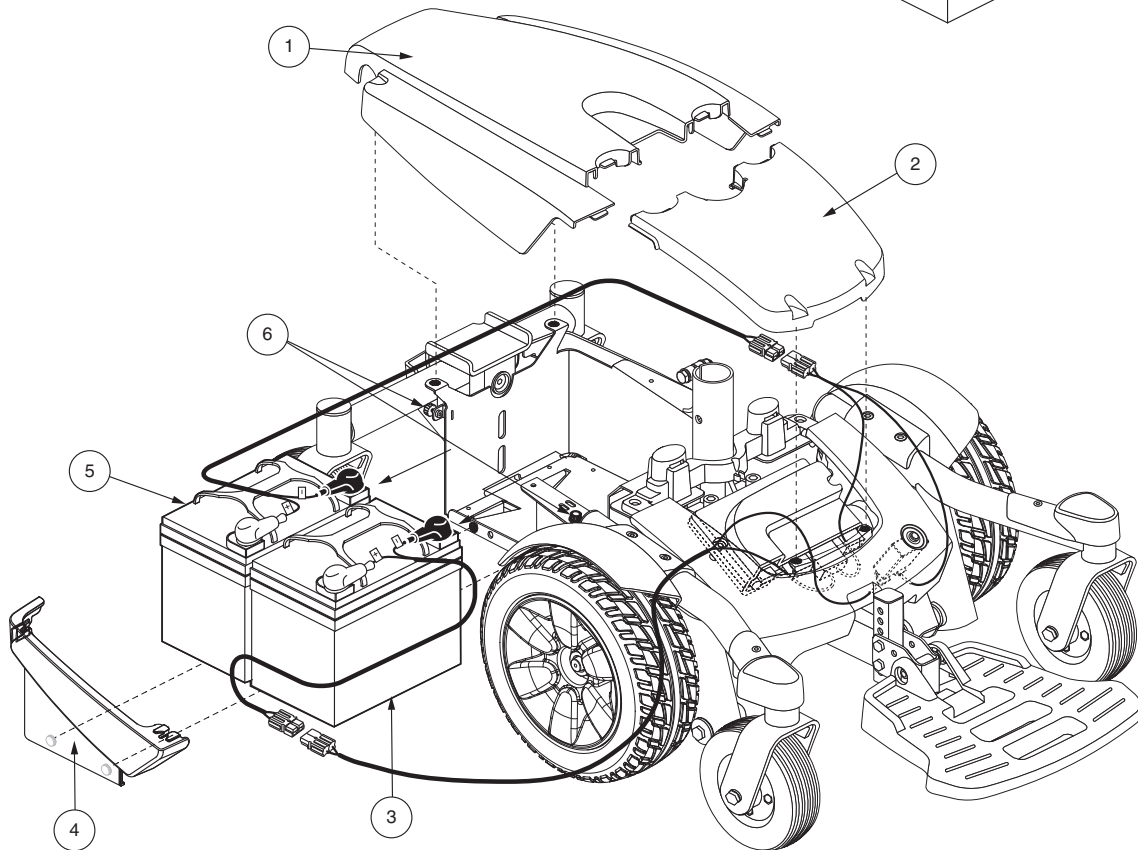

Figure 24. Battery Installation (Seat Removed for Clarity—Select 6 Shown)
3. Remove the rear shroud. **See figure 24.**
5. Disconnect the rear battery harness from the power base. **See figure 24.**
8. Disconnect the front battery harness from the power base. **See figure 24.**
10. Remove the battery harnesses from the old batteries and install them onto the new batteries. Make sure that the hardware is facing the correct direction. **See figure 24.**
11. Place the front battery into the power base. Make sure that the terminals are facing the front of the power base. **See figure 24.**
14. Place the rear battery onto the power base. Make sure that the terminals are facing the front of the power base. **See figure 24.**